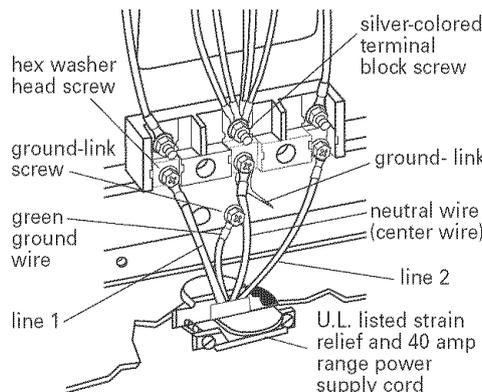

Figure 2
8. Connect the green ground wire from power supply cord to the range using the ground-link screw. The ground wire must be attached first and must not contact any other terminal. See Figure 2.
10. Connect the neutral (center) wire to the center terminal connector using one of the hex washer head screws. Securely tighten screw for proper electrical connection. See Figure 2.
11. Connect the other two wires (lines 1 and 2) to the outer aluminum terminal blocks. Securely tighten screws for proper electrical connection. See Figure 2.